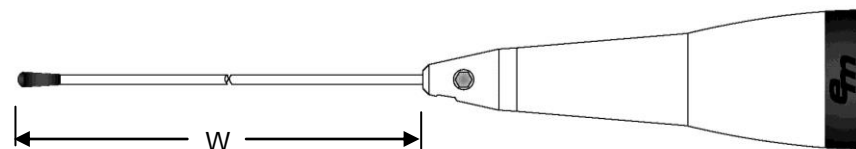

Fig. 4
TUNED LENGTH "W" is determined by measuring the distance between the top of the whip adapter and the top of the whip. **See Figure 4. NOTE: The actual cut length will be approximately 1" (25mm) longer than TUNED WHIP LENGTH "W".**
- 4. Imperial and Metric units are given for convenience. Cut the whip as required to establish the specified **TUNED WHIP LENGTH "W"** as shown in Figure 4.